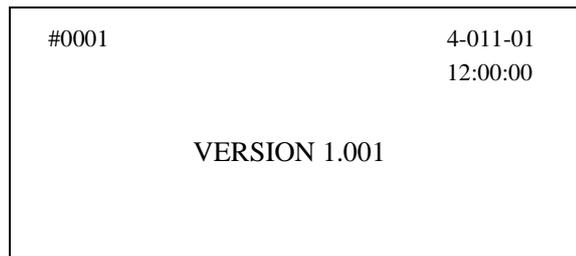

Figure 3-3
Connect the power wire, make the power like “ | ”this position, display the boot screen, meanwhile each system begin to self-checking process, then the screen display ready for test picture,figure3-3 after self-checking done.
3.5.1 Press the printer cover (Figure 3.3), printer cover bounce automatically, then open the printer cover, put the new roll of paper into the paper box.
Under the boot screen (Figure 3.3), press menu option (FN), another pop-up men will be displayed, all the settings of testing, related information of hardware will be contained in this page. The contents are as below chart: